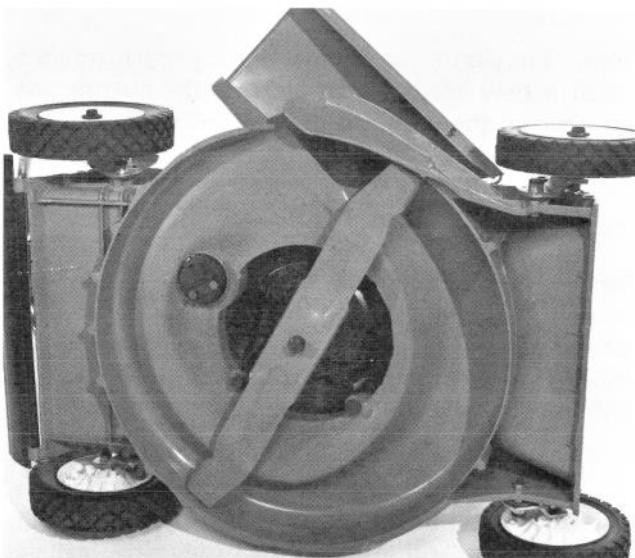

Figure 28
3. Tip mower on its left side (Fig. 28). Remove grass clippings and dirt that sticks to the housing by spraying it with a garden hose. Scrape out any grass that water does not remove from housing.